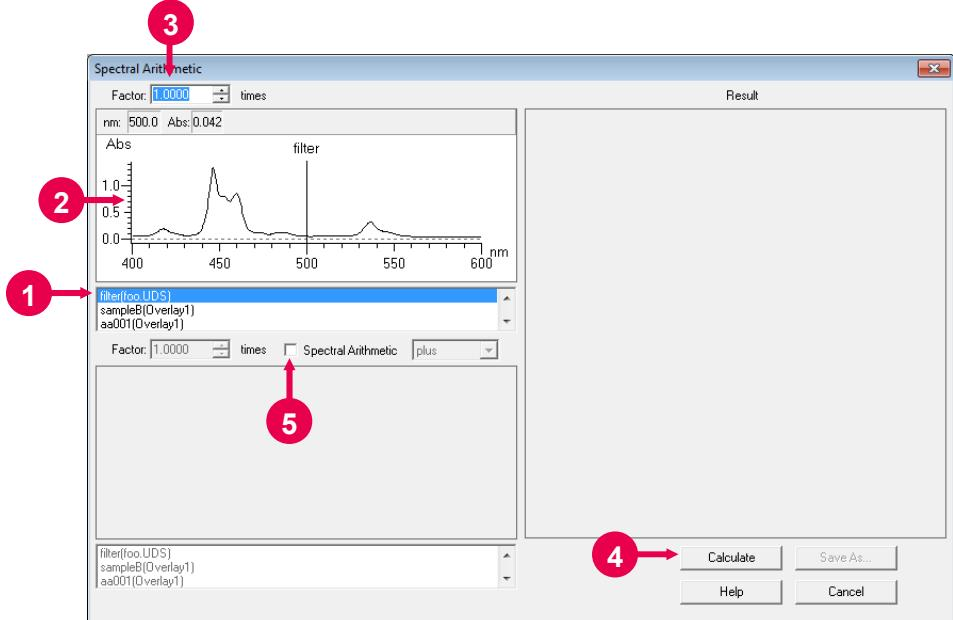

Fig. 5-30
The Spectral Arithmetic window will open as shown in Fig. 5-30.
- (1) Sample name indication area. The sample names for the files opened in the window (file names in parentheses) are listed. From this list, select a file for arithmetic operation (refer to (1) in Fig. 5-30).
- (2) The spectrum selected in step (1) is displayed (refer to (2) in Fig. 5-30).
- (3) Set a factor for the spectrum selected in step (1) (refer to (3) in Fig. 5-30).
- (4) For multiplying the spectrum by the factor, click the **Calculate** button (refer to (4) in Fig. 5-30).
- (5) For arithmetic operation between two spectra, put a check mark at "Spectral Arithmetic" (refer to (5) in Fig. 5-30).